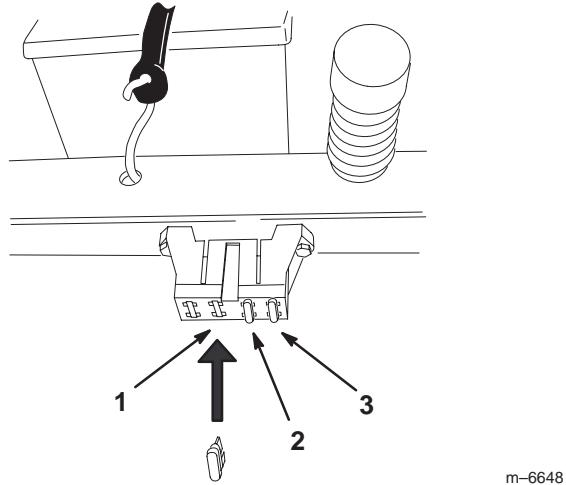

Figure 9
1. Install the 10 amp fuse into the empty slot next to the 25 amp fuse in fuse block, as shown in Figure 9.